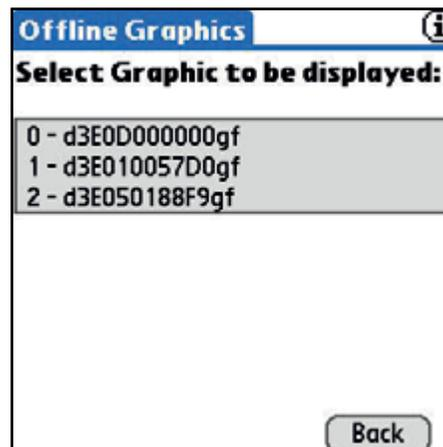
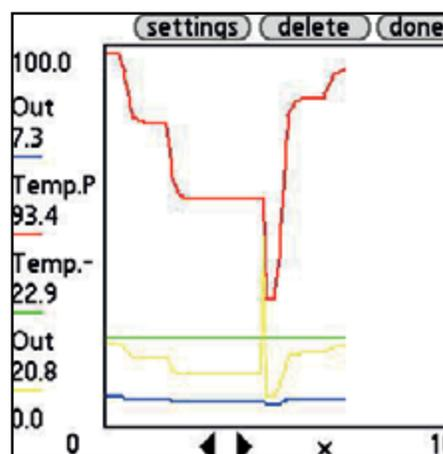

Fig. 16. - Offline Graphics File Selection
Fig. 17. - Offline Graphics
2. A list of all currently available offline graphs will be displayed (Figure 16). Select a file and it will be loaded (Figure 17). The offline graph files follow the following naming convention: dMMMDDXXXXXgf where: